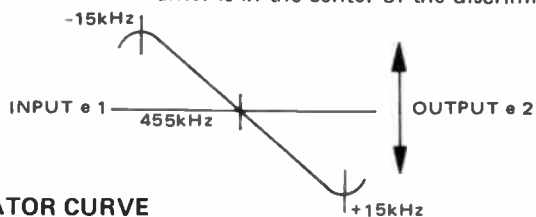

Figure 4. IF DISCRIMINATOR CURVE
Step 3: For optimum linearity, adjust IF Section T1, T2, T3 so that the 455 kHz marker is in the center of the discriminator curve as shown in Figure 4.